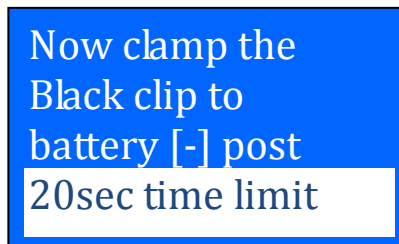

Figure 35
8. Once it has finished analyzing, it will prompt you with an instruction (Fig. 35) stating that you have should unclamp the Black tester clip from the engine or chassis body and transfer to the battery negative [-] terminal within 20 seconds time limit if not the testing procedure has to be repeated again as the gathered data will be lost.